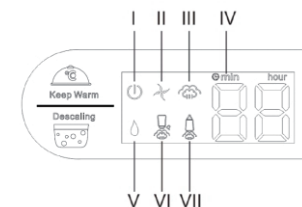

figure 3
**5.3. DISPLAY INFORMATION (figure 3)**